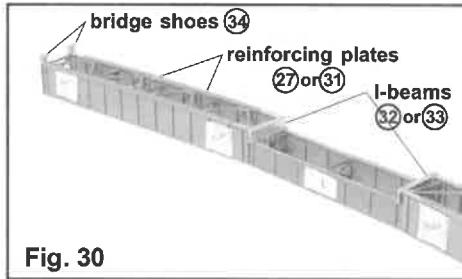

Fig. 30
Be sure the reinforcing plates are on the correct side, i.e. bottom side of the span. See fig. 30.
The I-beams are needed so the 30 ft. spans are supported at the correct height on the towers. See fig. 30 & 31.
**36. Cement a bridge shoe part (34) to the end of each girder at the abutment ends of the bridge. See fig. 30.**